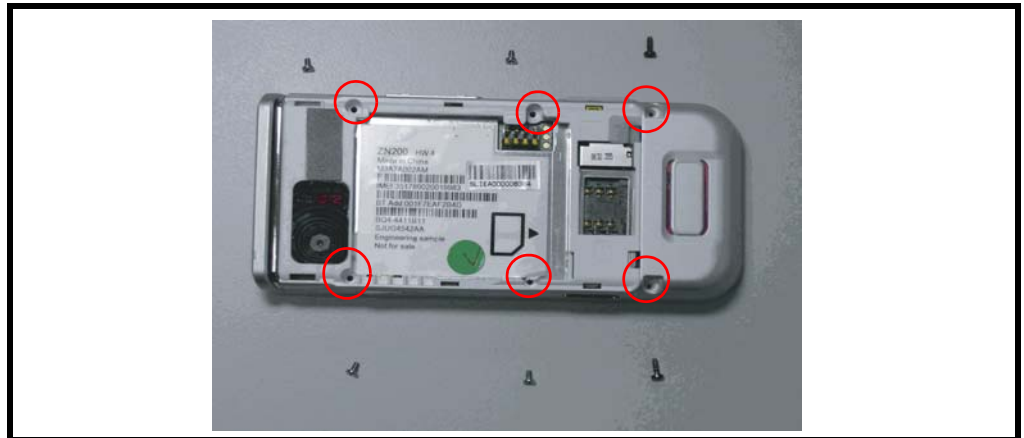

Figure 9. Release 6 screws on Case D.
3. Use T5 screw driver to remove 6 screws illustrated in Figure 9.